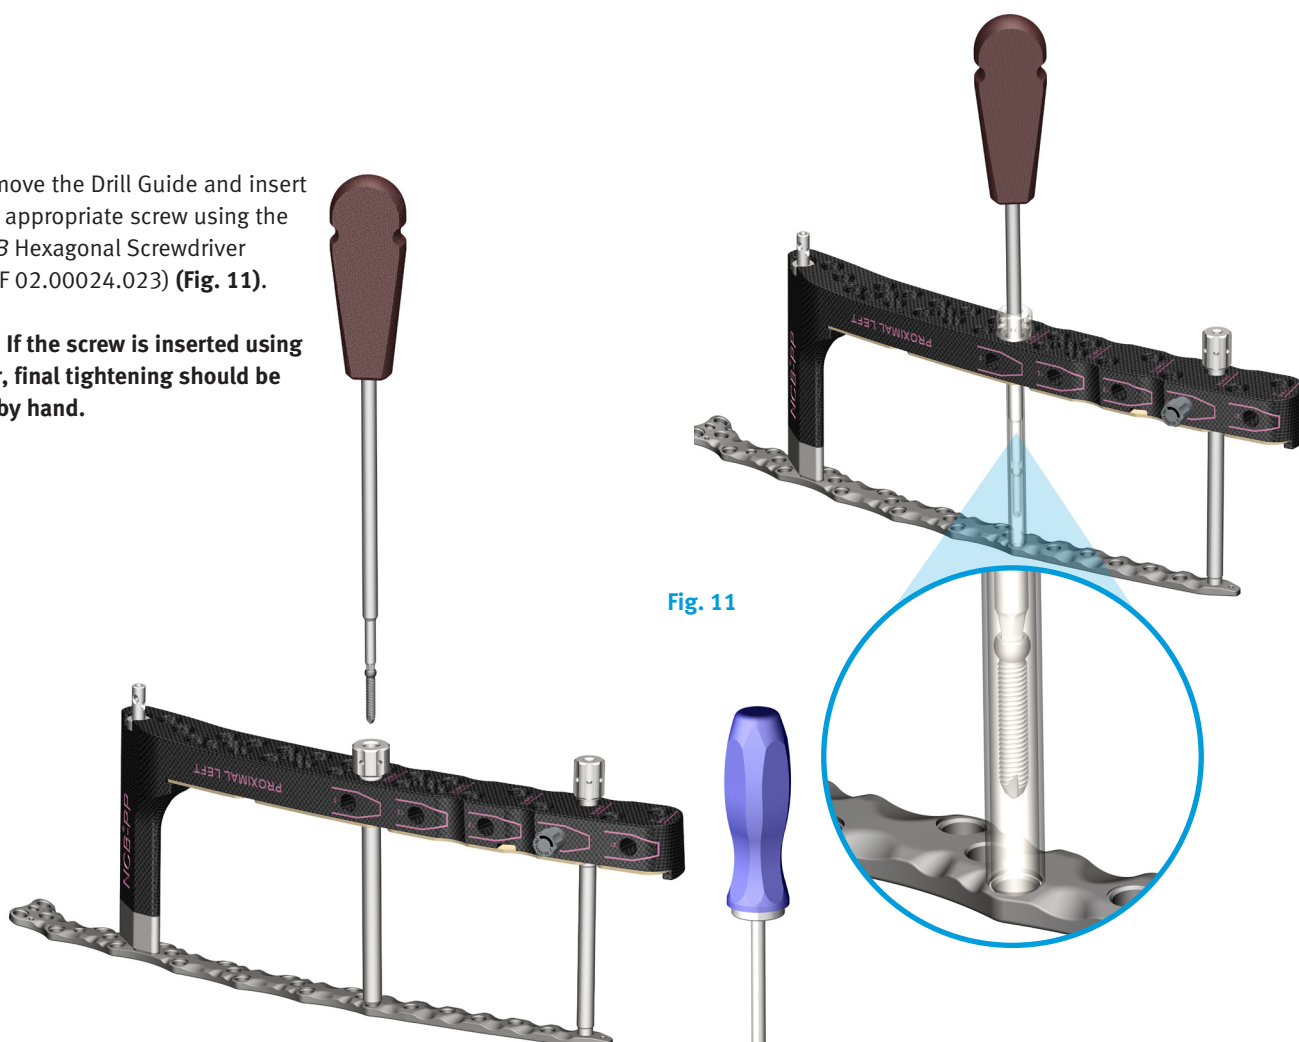

Fig. 11
6. Remove the Drill Guide and insert the appropriate screw using the *NCB* Hexagonal Screwdriver (REF 02.00024.023) (**Fig. 11**).